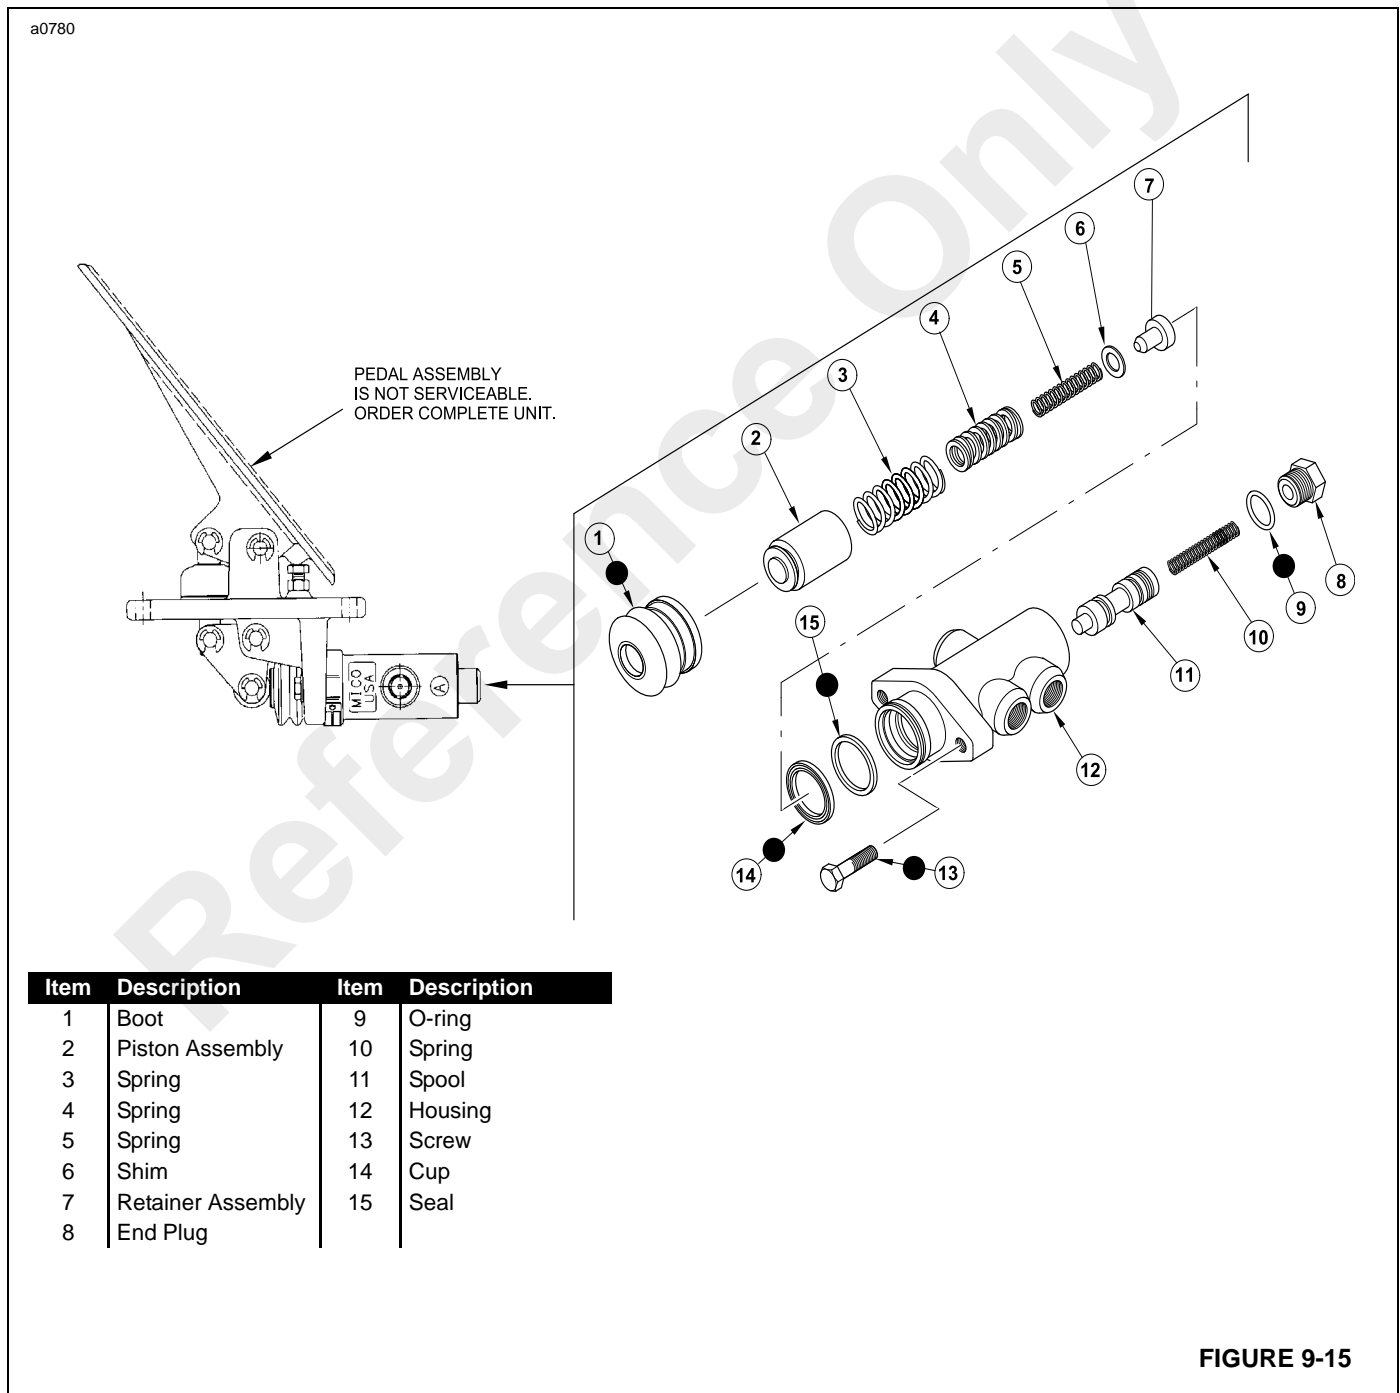

FIGURE 9-15
1. Remove the brake modulating valve from the pedal assembly, by removing two capscrews (13, Figure 9-15).
2. Remove boot (1) from piston (2) and housing (12).
3. Remove piston (2), springs (3, 4 and 5), shims (6) and retainer assembly (7) from housing (12).
A seal kit is available for repair of the valve. It consists of the items indicated with a I in Figure 9-15.
2. Lubricate spool (11, Figure 9-15) with clean hydraulic oil and carefully slide into plug end of housing (12).